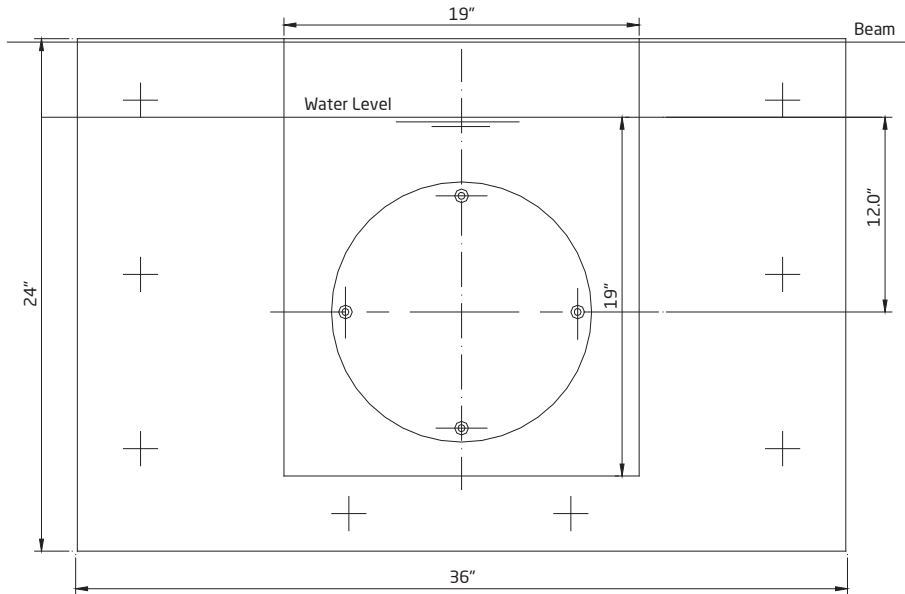

Figure 10
- One (1) piece of plywood 2' x 3' x 1/4"
- Eight (8) Lag screws 1/4" x 1-1/2" (minimum)
- Eight (8) Plastic lag shield anchors
4. Taking the 2' x 3' x 1/4" plywood, set its top edge even to the cap of the pool wall. In some cases a larger piece of plywood maybe needed to cover the hole completely. If plywood covers the hole completely, mark the water line on the plywood. From this line, layout and drill holes in plywood for the four (4) M8 x 80 gunite cover studs (part #31) and the eight (8) 1/4" lag screws. (*See Figure 10*)
5. Insert the four (4) M8 x 80 gunite cover studs (part #31) in the jet housing; one on each end of the vertical center line and one on each side on the horizontal center line insert gasket with knobs (part #26). Place gunite cover on studs covering the inside of the jet housing. Next place plywood on the studs and secure to the jet housing with four (4) M8 stud washers (part #32) and four (4) M8 gunite cover stud nuts (part #33). The discharge connection should be located directly **ABOVE** the suction connection.
6. Now place this assembly into position in the pool wall and align the water line marks. With a level on the two (2) horizontal studs, level the assembly and mark the eight (8) holes for the 1/4" lag shield anchors. Remove assembly and drill holes for lag anchors. Install lag shield anchors. Reposition the assembly and secure it to the lag shield anchors with 1/4" lag screws. It is best to check with a level before tightening the lags down. Back fill and form the outside of pool wall.